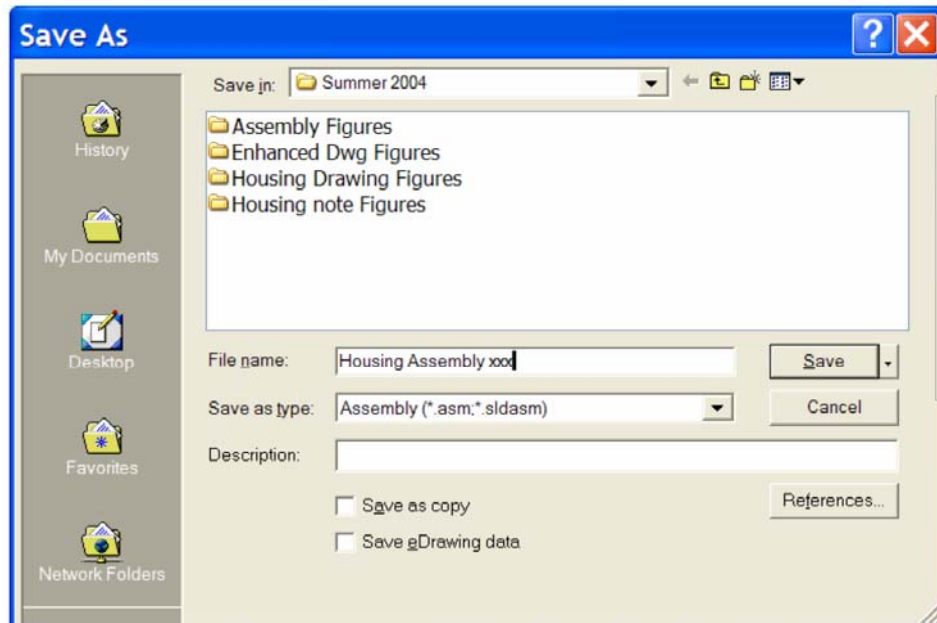

Figure 6
5. **Save as 'Housing Assembly xxx'.** See Figure 6